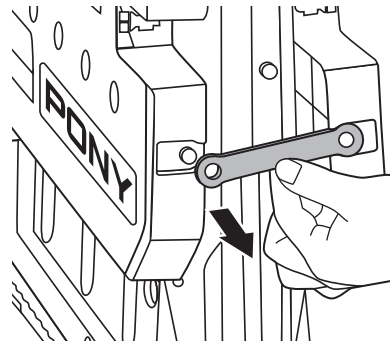

Figure 2
3. Remove the safety straps on both sides. (Figure 2)